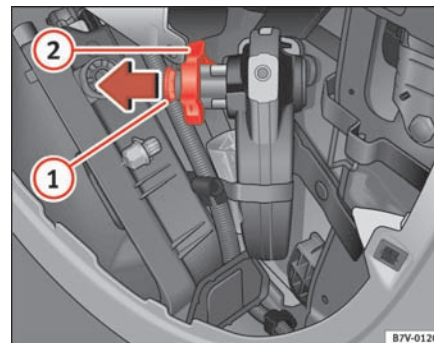

Fig. 135 Location of towing bracket
- Open the lock by turning the key ⇒ **fig. 135 ①** clockwise.
- Take out the wheel completely **②** in the direction of the arrow and turn clockwise to the maximum.